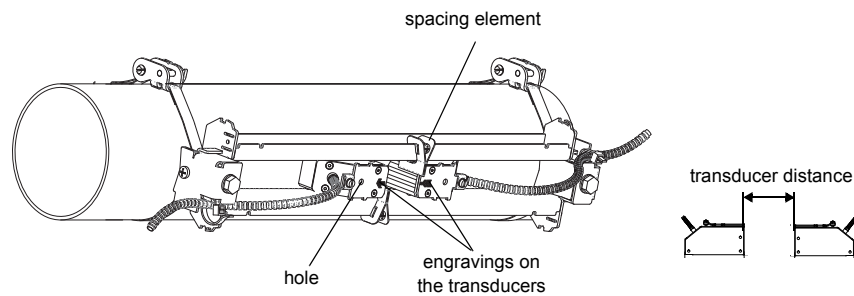

Fig. 8.41: Transducers in the rail (spring clip not shown)
- Position the transducers on the rail in such way that the engravings on the transducers form an arrow. The transducer cables show in opposite directions (see Fig. 8.41).
- Adjust the transducer distance displayed by the transmitter (see section 10.6 and Fig. 8.41).
- Fix the transducers by tightening the tensioning screws slightly. The end of the screw has to be placed above the hole in the transducer (see Fig. 8.41).
- Fix the spacing element on the rail to mark the transducer position (see Fig. 8.41).